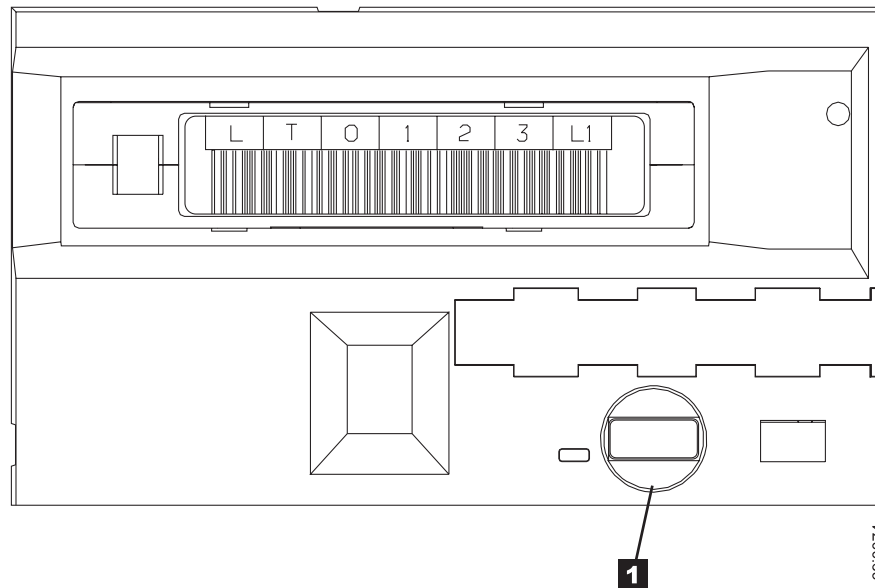

Figure 36. Removing a cartridge from an Ultrium tape drive
- a. Press and release the unload button (1 in Figure 36 on page 89).